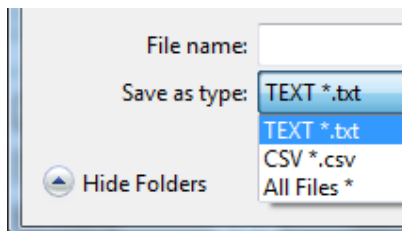

Figure 15: Save All Registers Dialog Box
- a. Normally **.txt** is used however **.csv** format also saves the IRQ status registers. The **.csv** format is useful for debugging, see Figure 15.